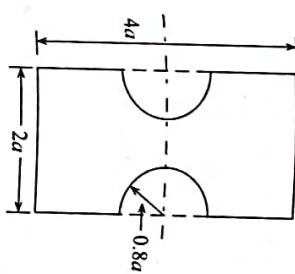

Figure 10.12
- 10.2 A transverse shear force  $F$  and a bending moment  $FL$  are applied to a uniform beam having the symmetrical cross section shown in Fig. 10.12. If the ratio of the transverse shear stress at the natural axis to the maximum direct stress due to bending is not to be less than 0.5, determine the maximum permissible value of  $f$  in terms of  $a$ .